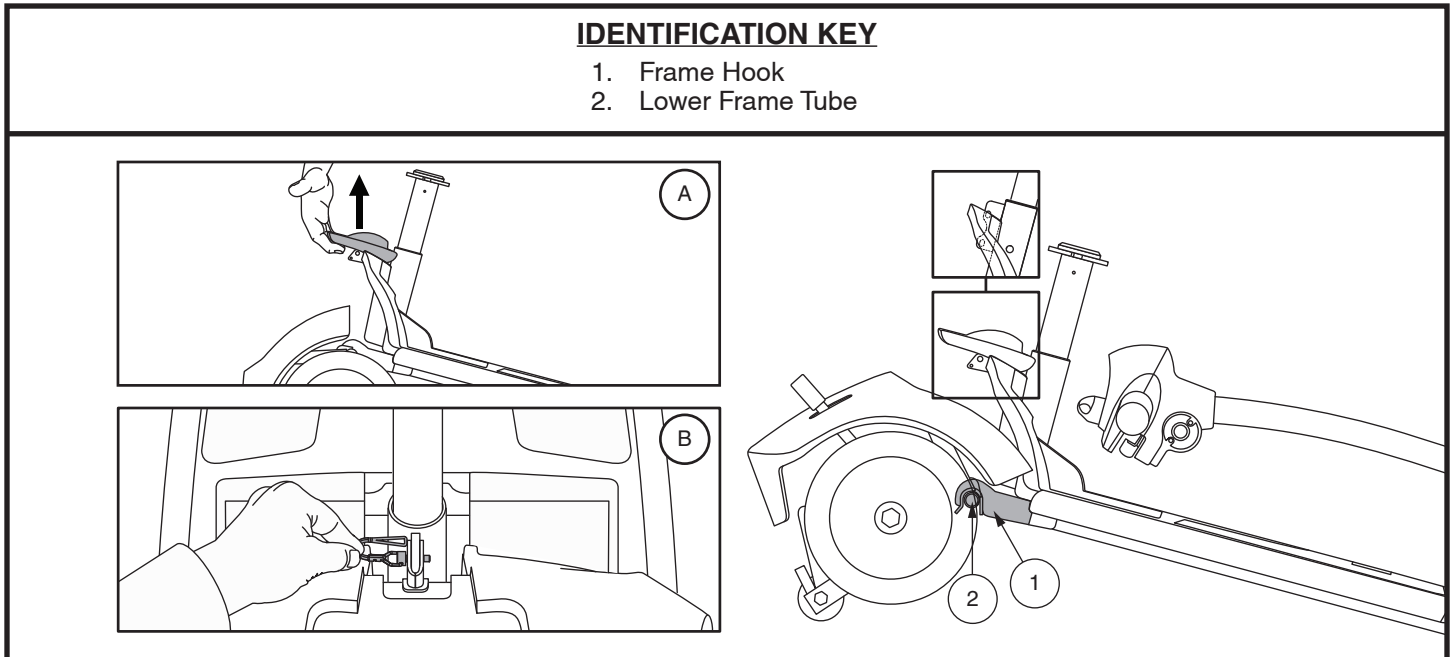

Figure 33. Frame Release Lever (Style A) and Frame Release Lock-up Pin (Style B)
4. Slowly separate the two sections of the Travel Scooter. See figure 33.
**NOTE:** Before attempting assembly, tilt the rear half of the Travel Scooter slightly back on the anti-tip wheels as shown in figure 33.
1. Use the frame release lever (or the seat post for models 29, 36, 336, 83, and 84 only) to lift the front section as you align the frame hooks of the front section with the lower frame tube of the rear section. See figure 33.
2. Once the frame hooks are over the lower frame tube, lower the front section and pivot the rear section simultaneously. This will engage the frame lock-up automatically for models AAP4, 39, 40, 44, 40LX, 40X, 44X, 40E, 402E, 44E, 442E, 44LX, 49, 50LX, 50LXLIT, 53, 53HD, 54, 54LX, 54LXLIT, 54HD, 66, 67, 73, 74, and Jazzy ZTS. For models 29, 36, 336, 83, and 84, you will also need to reinstall the frame lockup pin to complete the body assembly. See figure 33.